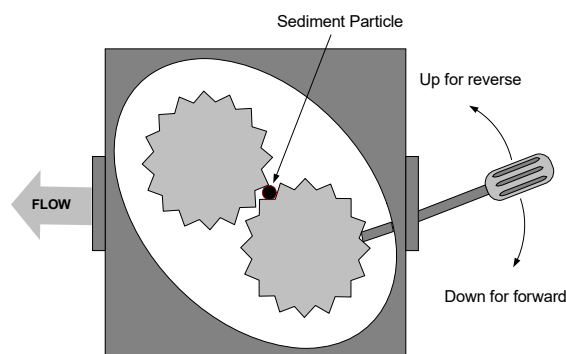

Figure 12
A pump seized by debris or hard shortening can usually be freed by manually moving the gears with a screwdriver or other instrument as illustrated in Figure 12. **Ensure power to the pump motor is off before trying this.**
3. Use a screwdriver to manually turn the gears (see Figure 12).